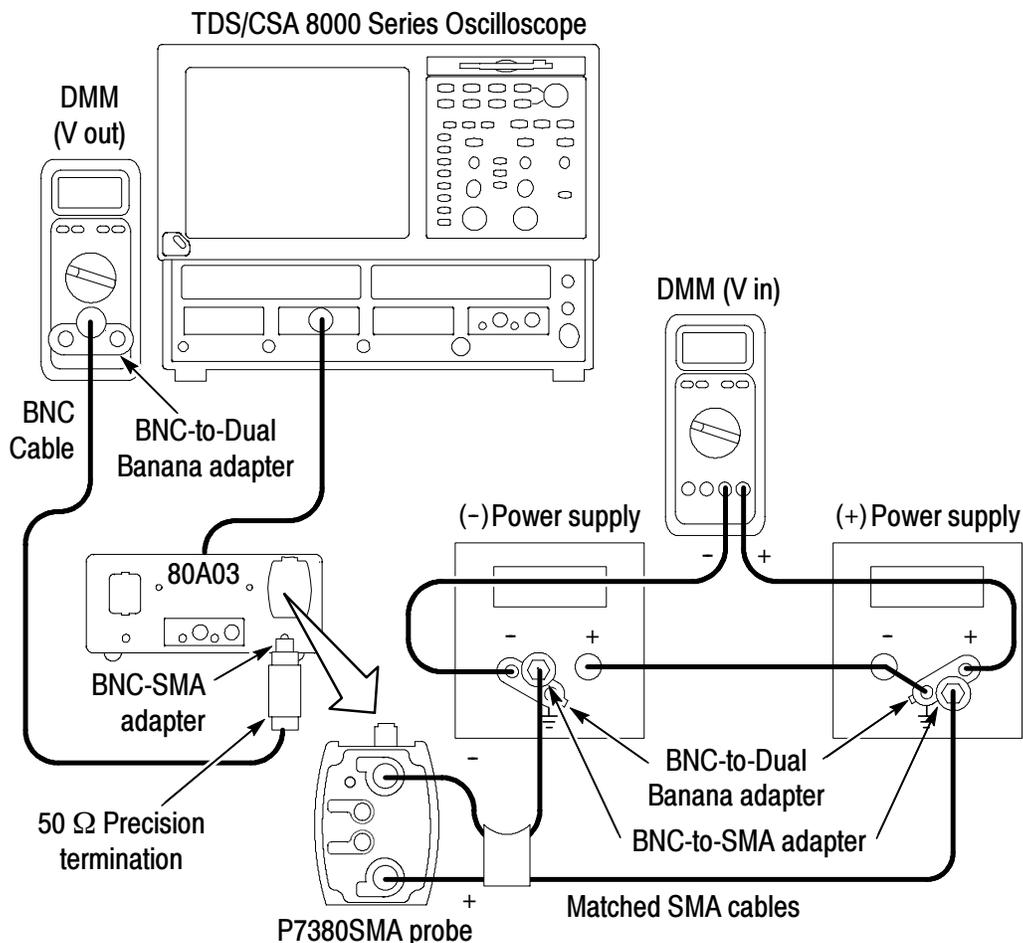

Figure 40: DC Gain Accuracy setup
2. Connect the probe to the power supplies as shown in Figure 40. Make sure the ground tabs on the BNC-to-dual banana plug adapters are connected to the ground connections on the power supplies. Monitor the source voltage with one of the DMMs. Monitor the source voltage with one of the DMMs.